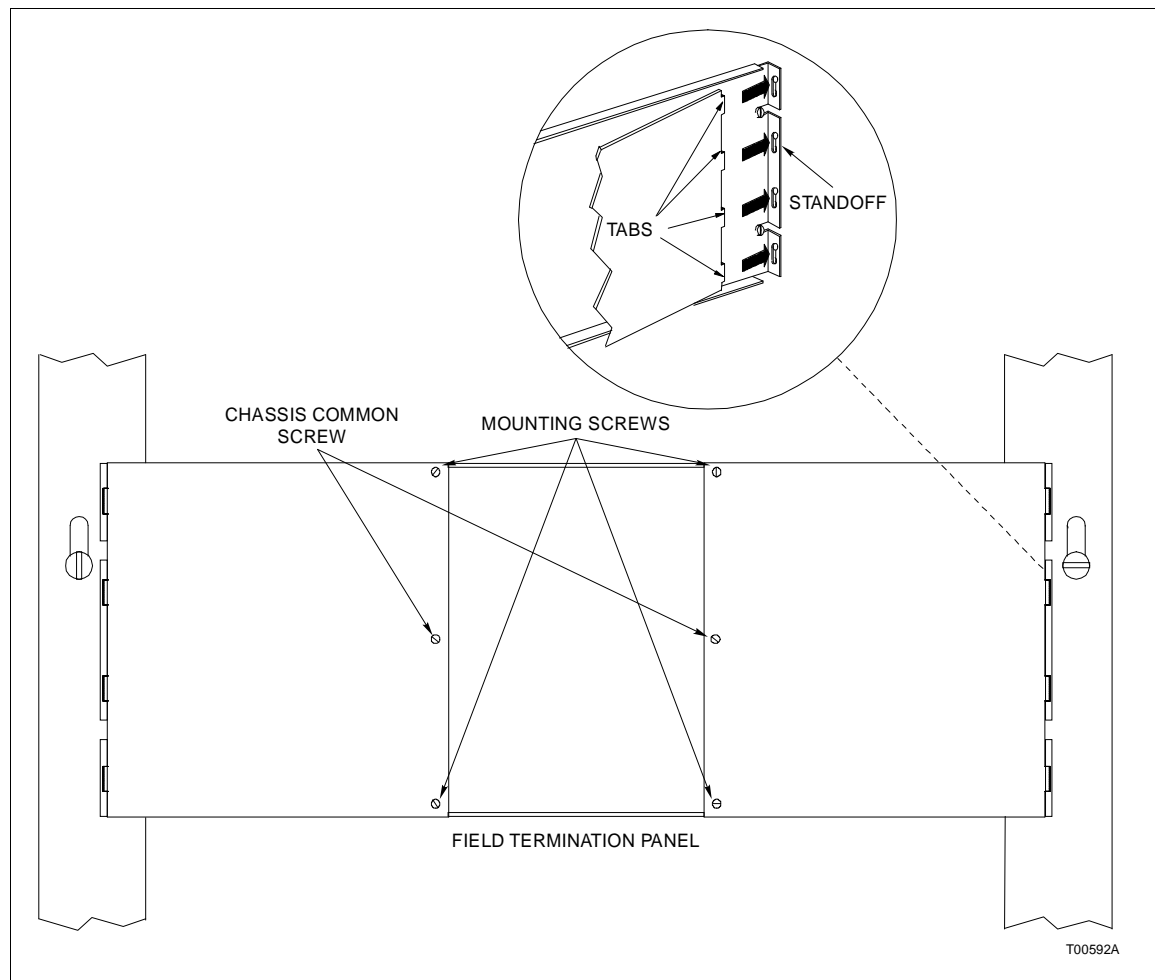

Figure 2-1. Mounting and Securing the TCU Unit on the Field Termination Panel
1. Insert the tabs of the circuit board into the proper slots of the termination panel standoff (see Figure 2-1) and slide the circuit board into position.
2. Secure the termination unit circuit board to the field termination panel with two number 10 screws (see Figure 2-1).
3. Connect the chassis ground to the field termination panel by installing a number 10 self-tapping sheet metal screw and star washer through E2 on the TCU circuit board. See Figures 2-1 and 2-2.
5. Insert the tabs of the replacement termination unit into the same slots of the termination panel standoff as shown in Figure 2-1 and slide the circuit board into position.